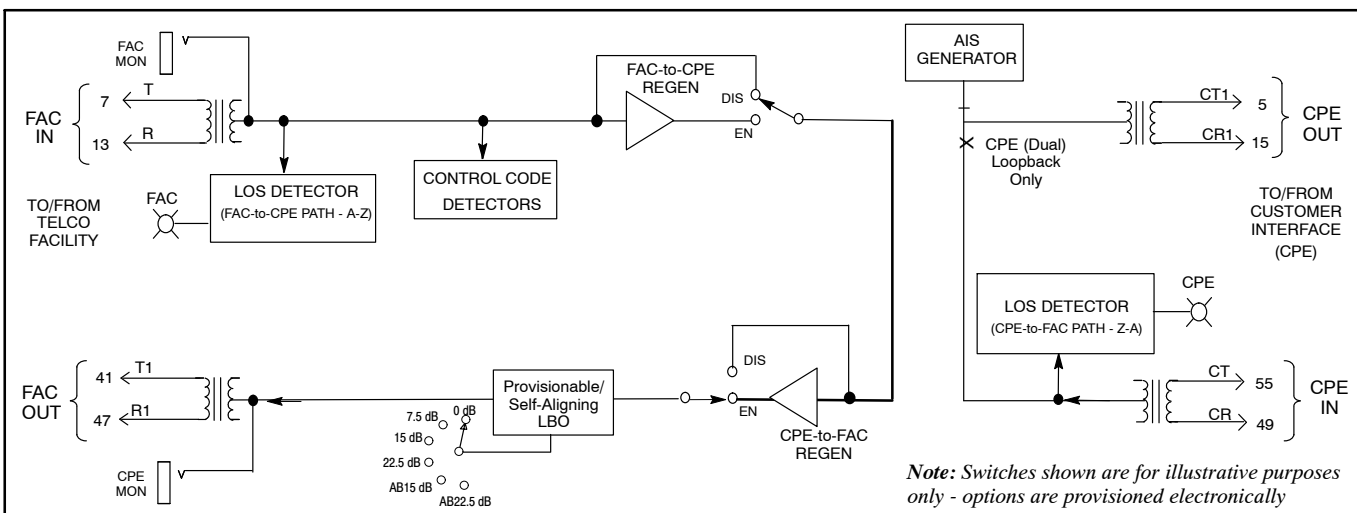

Figure 6. Transmission Path During Loopback Operation
Loopback can be used during maintenance and circuit troubleshooting to verify the integrity of the Telco DS1 facility up to, and including, the NIU. Loopback, when activated, loops the entire DS1 payload from the receive facility back towards the transmit facility. Also, when the unit is in loopback the front-panel Loopback LED (LB) will be on, and a loopback timeout circuit, if enabled, is activated. Figure 6 shows a simplified view of the circuit during loopback .
In this mode, the unit continuously monitors the DS1 signal from the CPE for customer loss of signal, and upon detecting a loss will change the CPE LED from green to red and cause the unit to enter Loopback toward the network. When the signal from the CPE is restored the unit will return to normal operation. LB upon CPE LOS is an option that can be set remotely via TL1 or 16-bit commands or locally via the craft interface port. When set to enter loopback upon detecting a loss of signal from the CPE, the NIU will assume the transmission path as shown in Figure 6.